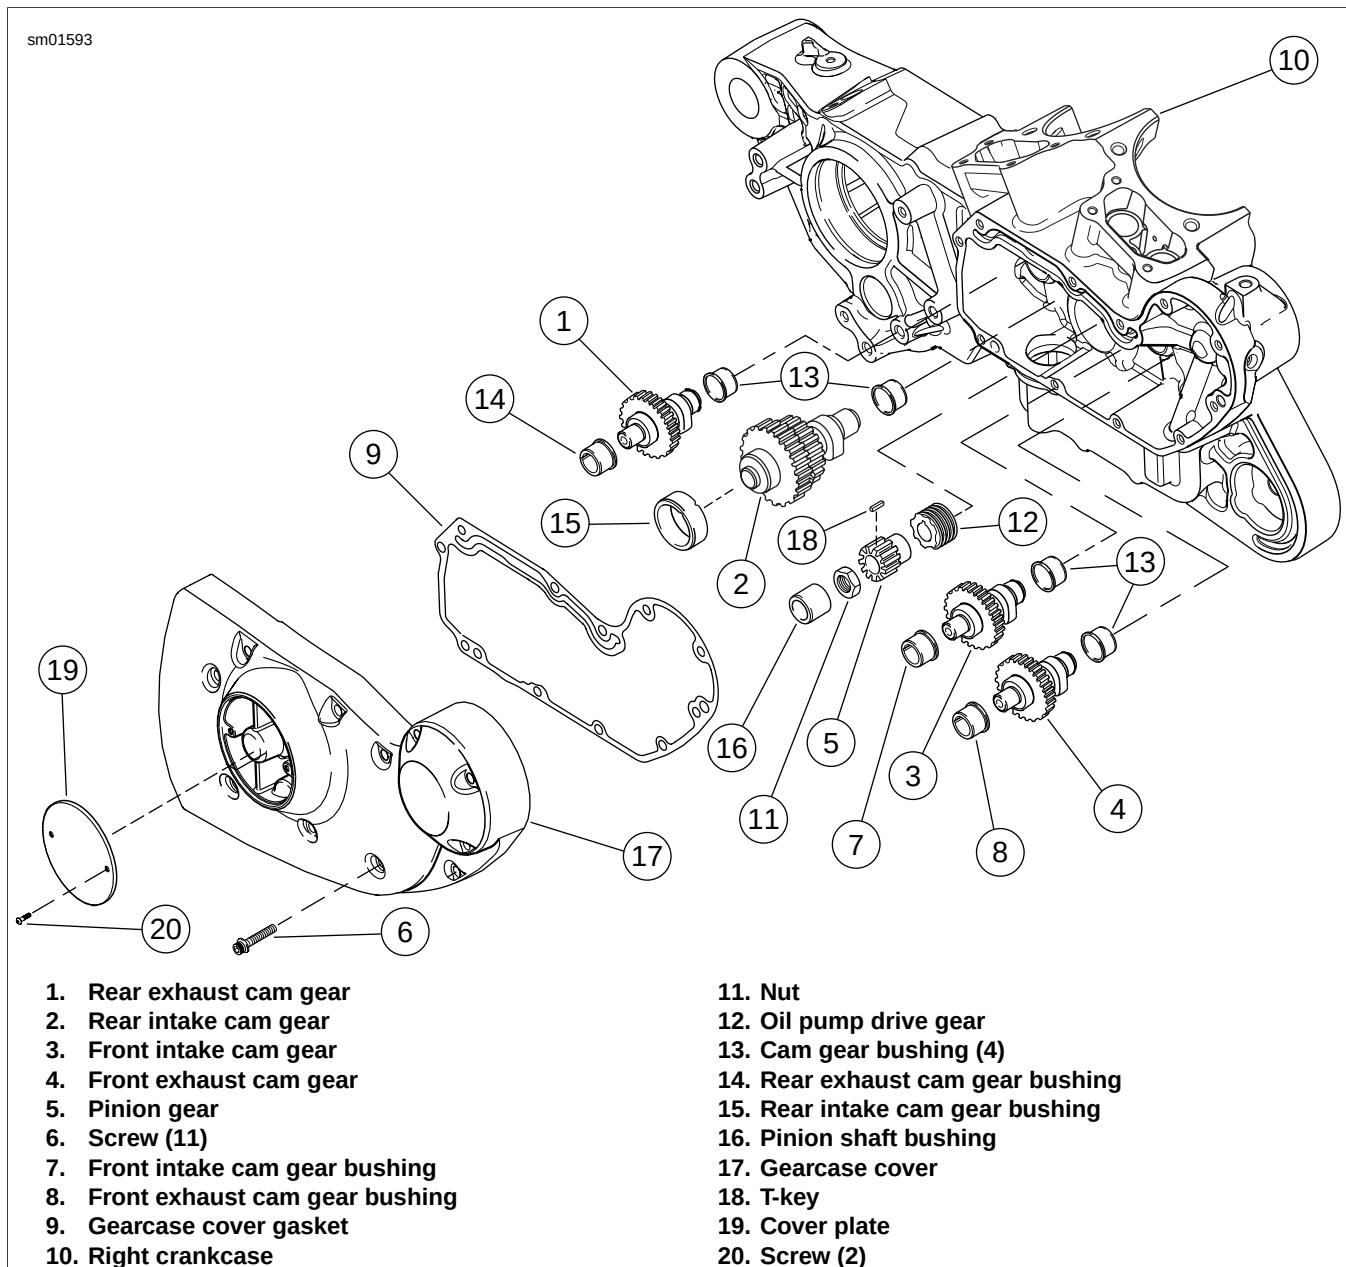

Figure 3-70. Gearcase and Valve Train Components: XL Models
3. See Figure 3-70. Place a pan under gearcase to collect oil. Remove cover screws (6). Carefully remove gearcase cover. Discard old gasket (9).